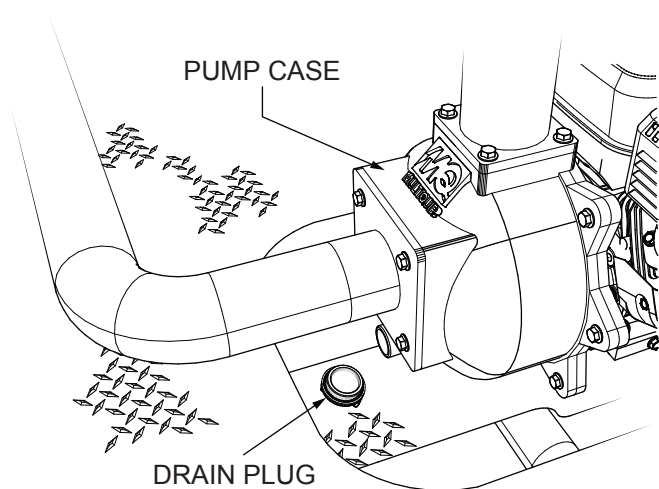

Figure 23. Remove The Drain Plug
3. Locate and remove the pump drain plug on the pump end (Figure 23).